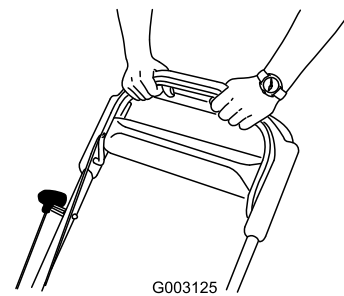

Figure 24
3. Hold the blade-control bar against the handle (Figure 24).